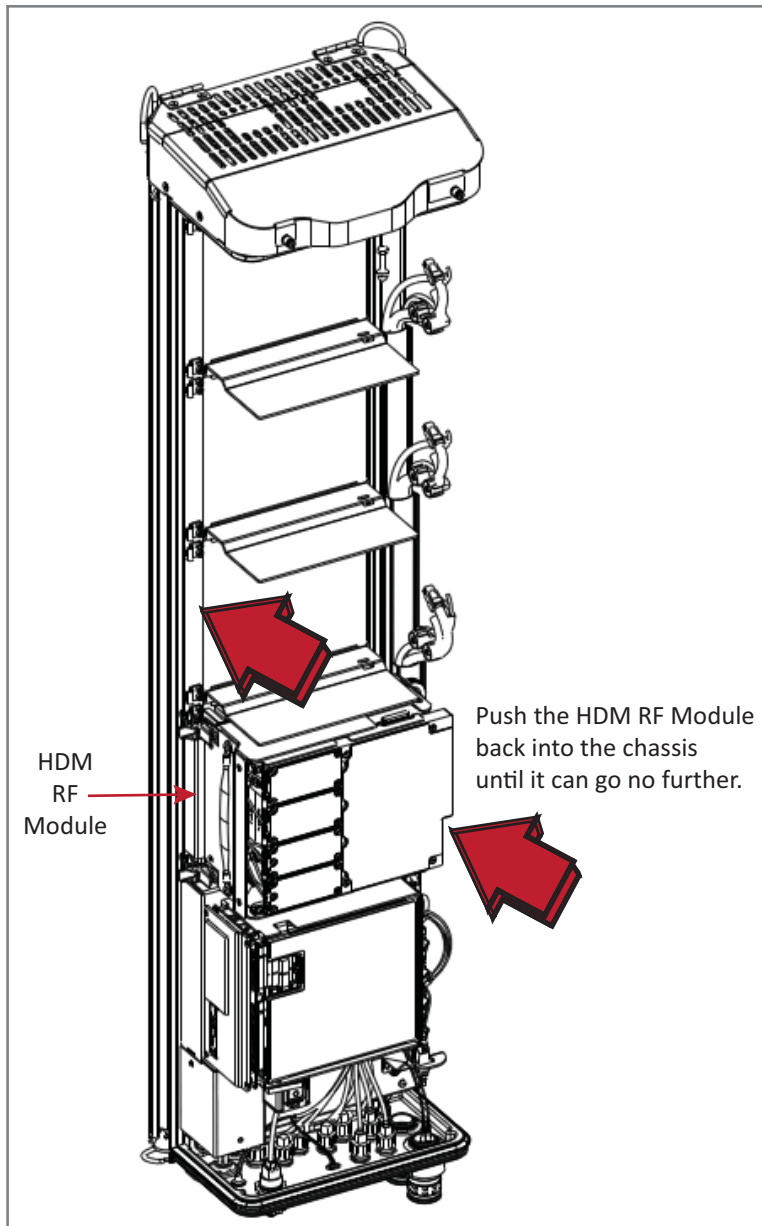

Figure 26. Seating an HDM RF Module
- For HDM RF Modules, see Figure 26 on page 97.